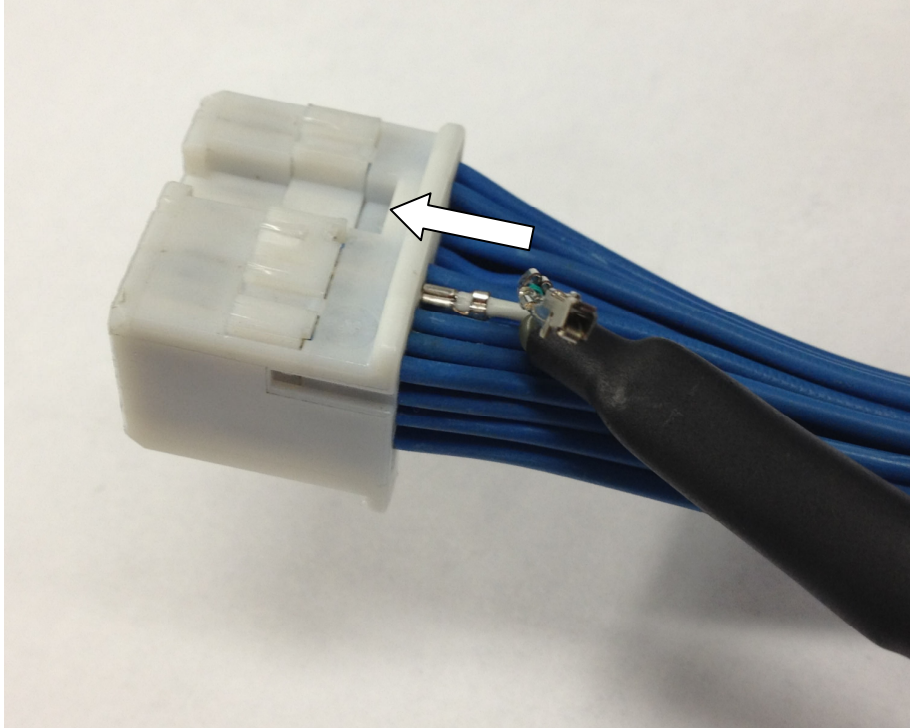

Figure 6: Pushing pin into ECU plug
4. Make sure that the clip that holds the pin in the ECU connector is up so that it will clip properly into the connector. To install the harness into the ECU plug, align the CANL and CANH pins into the receptacle of the plug and push in until it clicks as shown in figure 6: